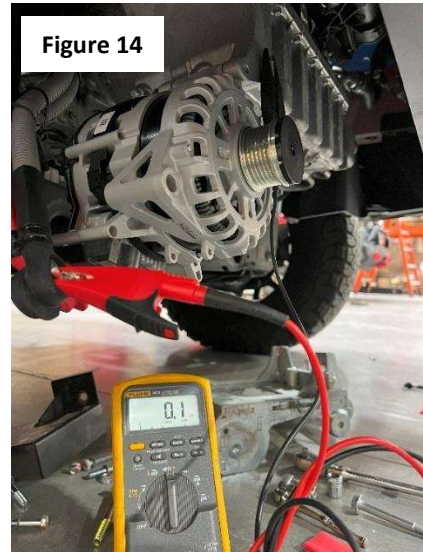

Figure 14
- a) With a multimeter set to Ohms/resistance, connect one lead to the **new** negative alternator lead and another lead to a good ground on the chassis. See figure 14.